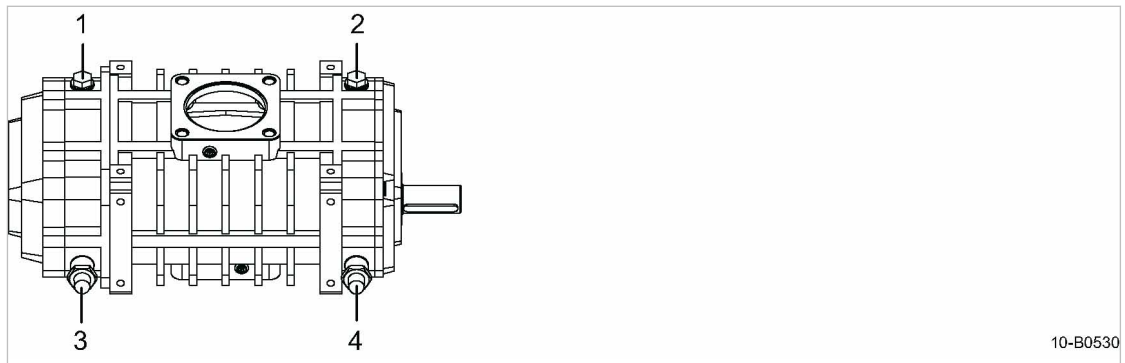

Fig. 30 Replenishing lubricating oil
2. Take out the oil filler plugs at the oil inlet of the blower block ① and ② (Fig. 30).
3. Take off the caps ① and ② and open the oil drain taps ③ and ④.
3. Close the oil drain taps ③ and ④.
4. Check the oil level in both sight glasses (Fig. 30) and top off as necessary.
5. Screw on the caps ① and ②.